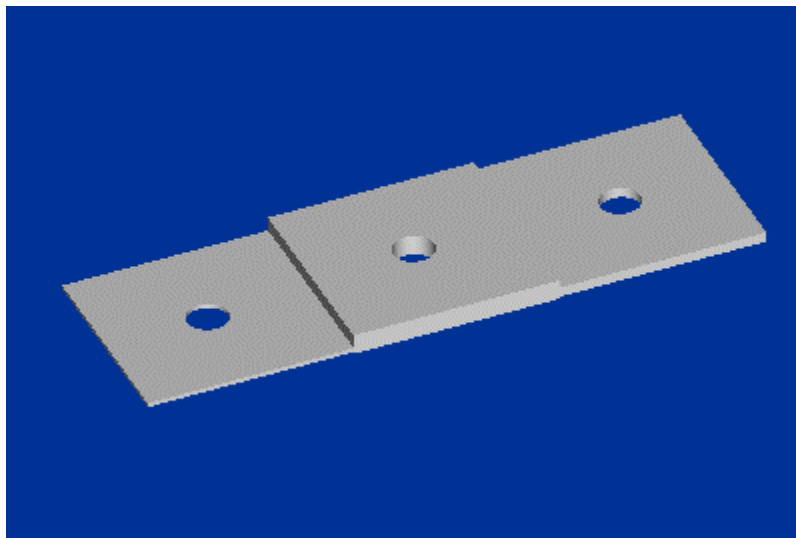

Figure 1
- Define the level of solution accuracy up front by specifying convergence settings before running a simulation, and watch as Pro/MECHANICA automatically checks for errors, converges to an accurate solution and generates convergence information for verification. See Figure 1 and 2.
1. The simple model of a support plate shown in Figure 1 will be used to illustrate how Rigid Connections are created in Pro/MECHANICA Integrated mode.